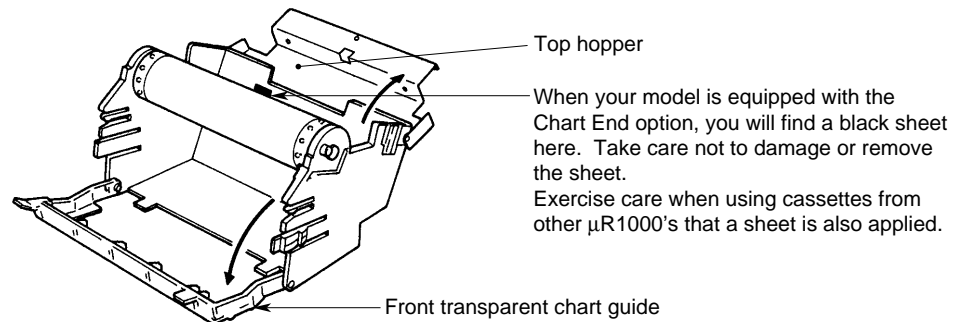

Figure 5.3
- 5 Press the sides of the chart guide plate at the top rear of the chart compartment and swing the guide plate up (see figure 5.3).
- 6 At the front, pull/swing the front transparent chart guide down (see figure 5.3).